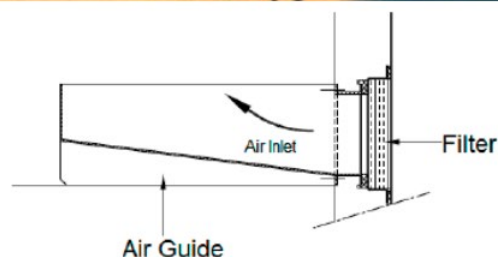

Figure 1 - Ventilation system filter
5.1 Replace the ventilation system filters (Figure 1) in the air guides of the cabinets.